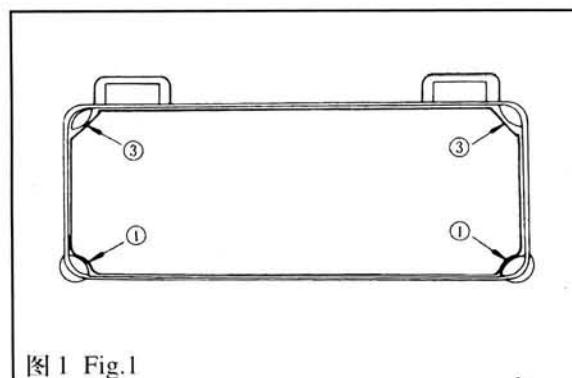
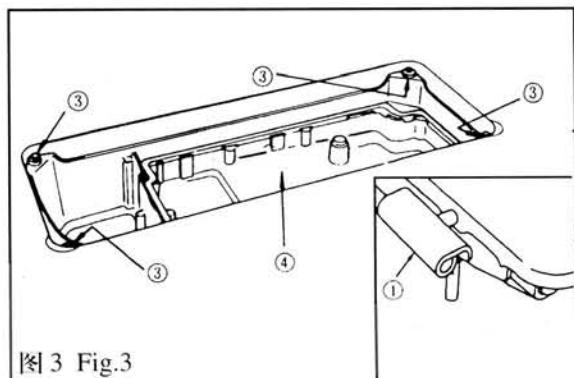
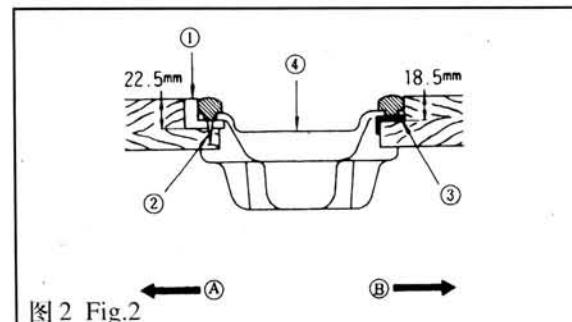
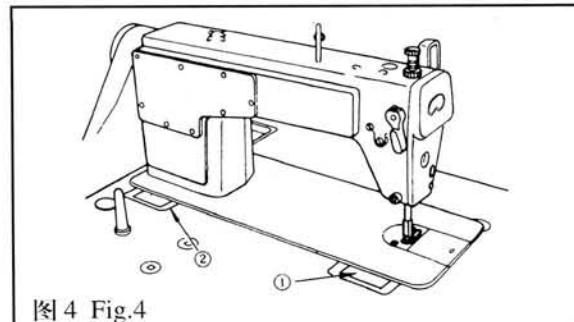

图 1 Fig.1
图 3 Fig.3
图 2 Fig.2
图 4 Fig.4
1. 机器的安装(图 1、图 2、图 3、图 4)
1. INSTALLATION (Fig.1, Fig.2, Fig.3, Fig.4)
- 2) 如图所示, 将两只油盘支座①用油盘座钉②固定在A一边(朝操作者一边), 将两只油盘座垫③用油盘座钉②固定在B一边(用机头连接钩接合一边), 最后把油盘④放在其上。(图 1、图 2)
- 3) 将机头连接钩①放入底板孔内, 与台板的机头连接钩座②相嵌合, 再将机头放到四只角的机头座垫③上。(图 3、图 4)
- 2) Fix two rubber seats ① on side A (operator's side) using nails ② as illustrated above. Fix two cushion seats ③ on side B (hinged side) using nails ② . Then place oil pan ④ on the fixed seats. (Fig.1, Fig.2)
- 3) Fit hinge ① into the opening in the machine bed, and fit the machine head to table rubber hinge ② before placing the machine head on cushions ③ on the four corners. (Fig.3, Fig.4)